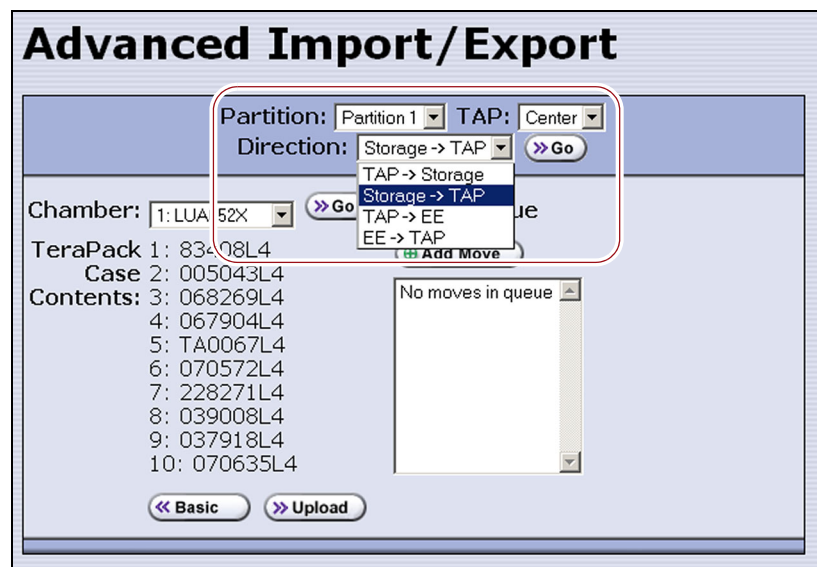

Figure 163 Select the partition, TAP, and the direction of the move.
- c. On the Advanced Import/Export screen (see Figure 163 on page 260), click **Upload**. The Upload Media Exchange Move List screen displays.